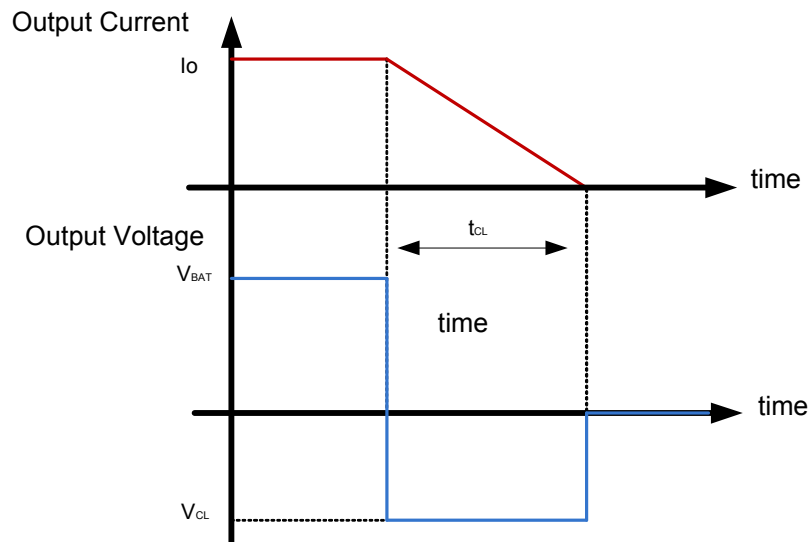

Figure 22. Simplified Negative Output Clamp Waveform
In case of an inductive load (L), the energy is dissipated after the turn-off inside the N-channel MOSFET. When $t_{\text{CL}} (= I_{\text{O}} \times L / V_{\text{CL}}) > 1.0\text{ ms}$, the turn-off waveform can be simplified with a rectangle as shown in Figure 22.